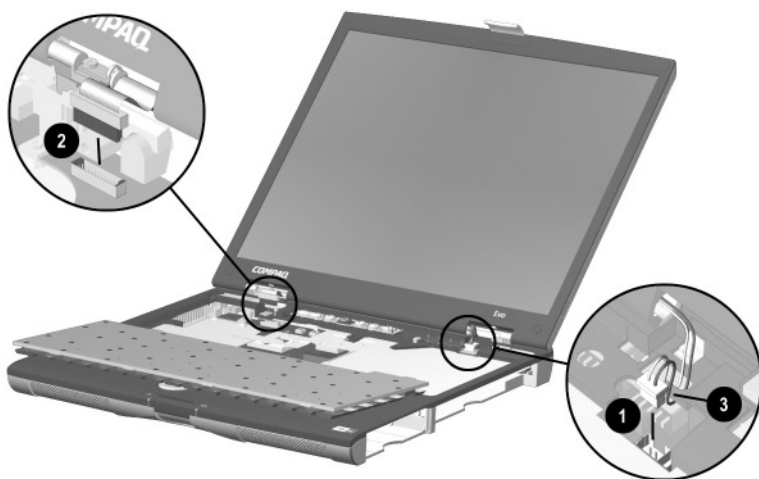

Figure 5-16. Disconnecting the Display Cables
12. Disconnect the display inverter ❶ and video cables ❷ (Figure 5-16).